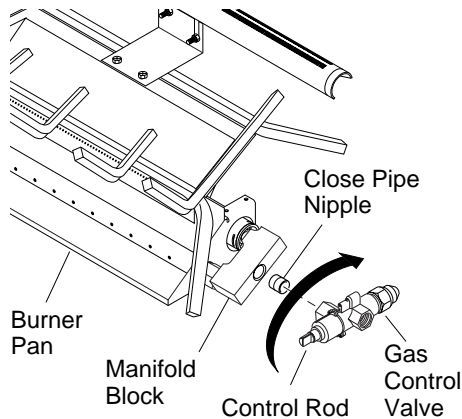

Figure 11 - Installing Gas Control Valve
1. Thread the gas control valve onto the close pipe nipple (see Figure 11). Use thread sealant on the male threads of the fitting. Thread other end of the nipple into the burner manifold block. Hold the manifold block with a wrench to prevent stressing the connections to the burners. Make sure the control rod is facing the front (see Figure 11).